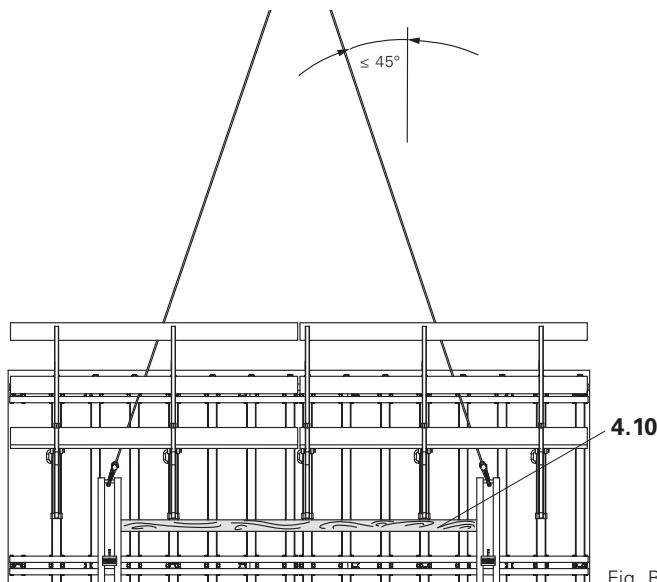

Fig. B2.04
**In order to prevent the strongbacks from being pulled out of position at any time, a piece of timber (4.10) has to be clamped between the top ends of the strongbacks, see C1 Moving (Fig. B2.04)**